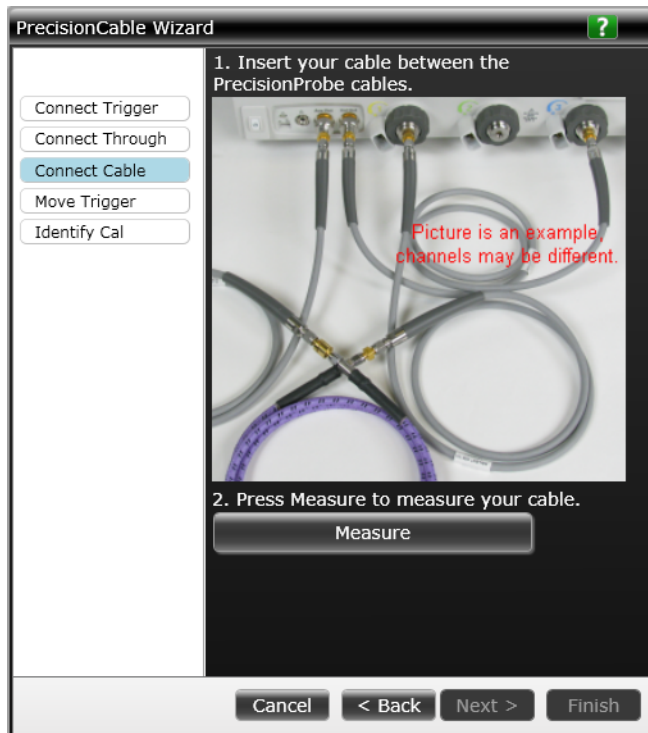

Figure 11 PrecisionCable– Connect Cable
- 9 The example picture in the Connect Cable screen in **Figure 11** also does not reflect your test scenario. It shows a purple cable that represents your switch matrix path, but it does not have the N7010A in place. You must put the N7010A adapter back onto channel 2.